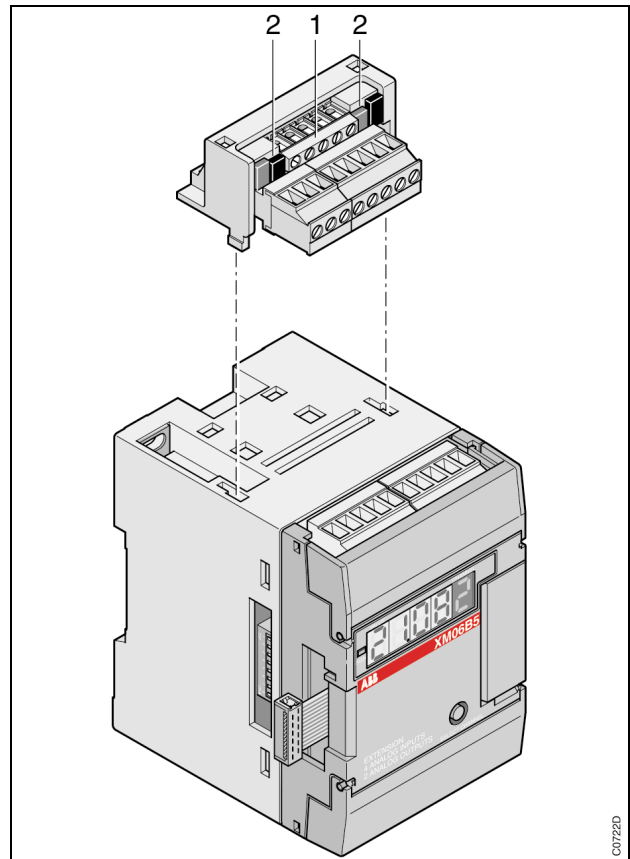
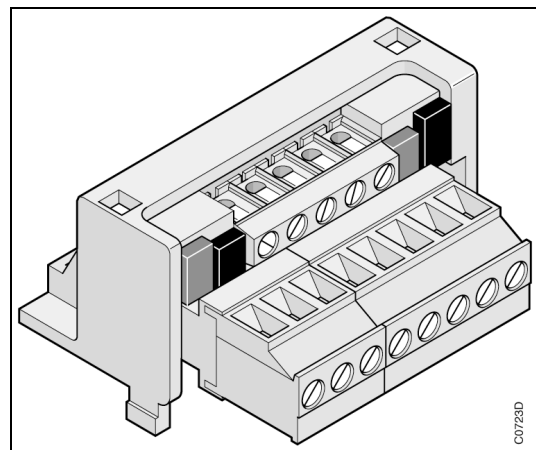

Figure 3-20 : External dual connectors (07 ST 51)
Figure 3-22 : External dual connectors (07 ST 51)
7.4.3. External dual connector: 07 ST 51 (see Figure 3-20 and Figure 3-22)